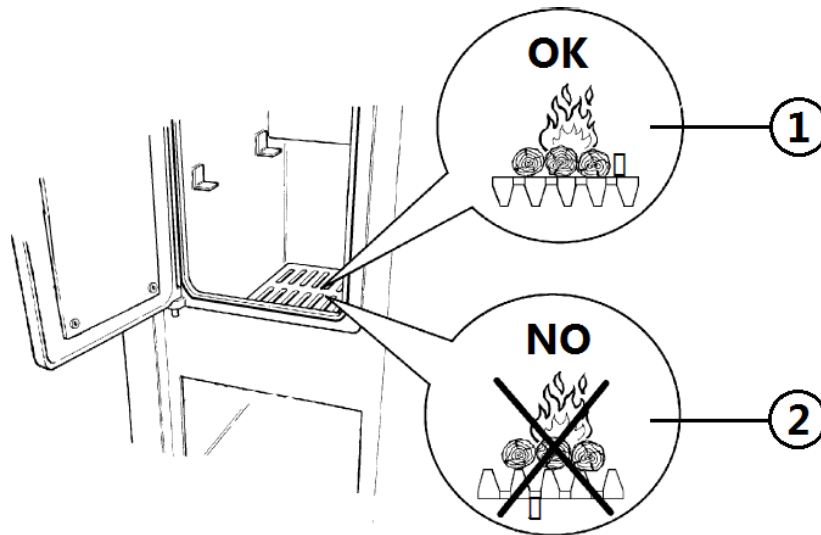

Fig. 29 - Embers side
- When locating both the grills in their seats it is essential to position them with the EMBERS SIDE upwards (see Fig. 29 page 28).